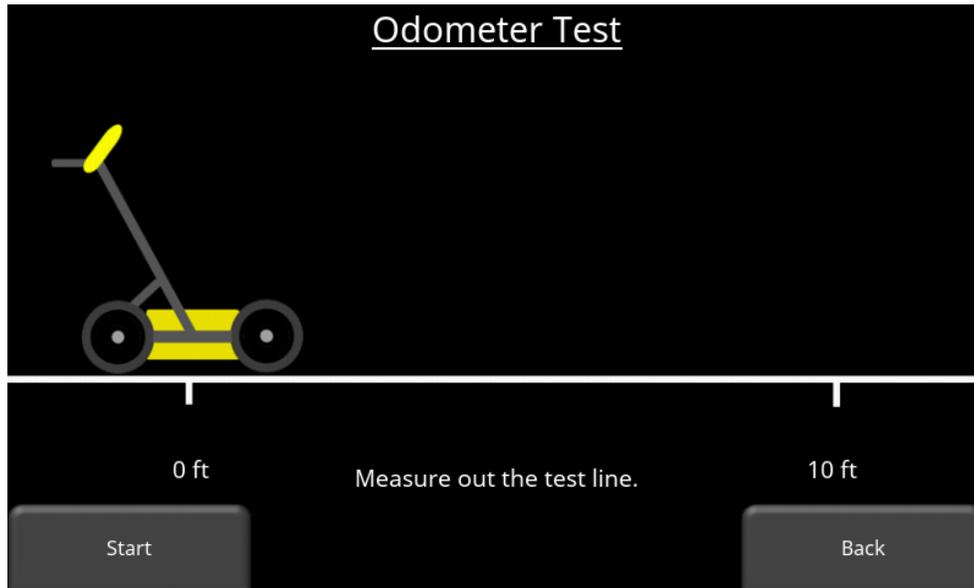

Figure 5-23: Ready to test odometer for a distance of 10 feet
- **Odometer Test** – This test verifies that the odometer is calibrated properly. It measures a set distance (5m or 10') on the surface and then moving the system over that distance. Press **Start** to begin and then press **Finish** when you have moved that distance (Figure 5-23). It will display a pass or fail, along with a percentage difference from the known